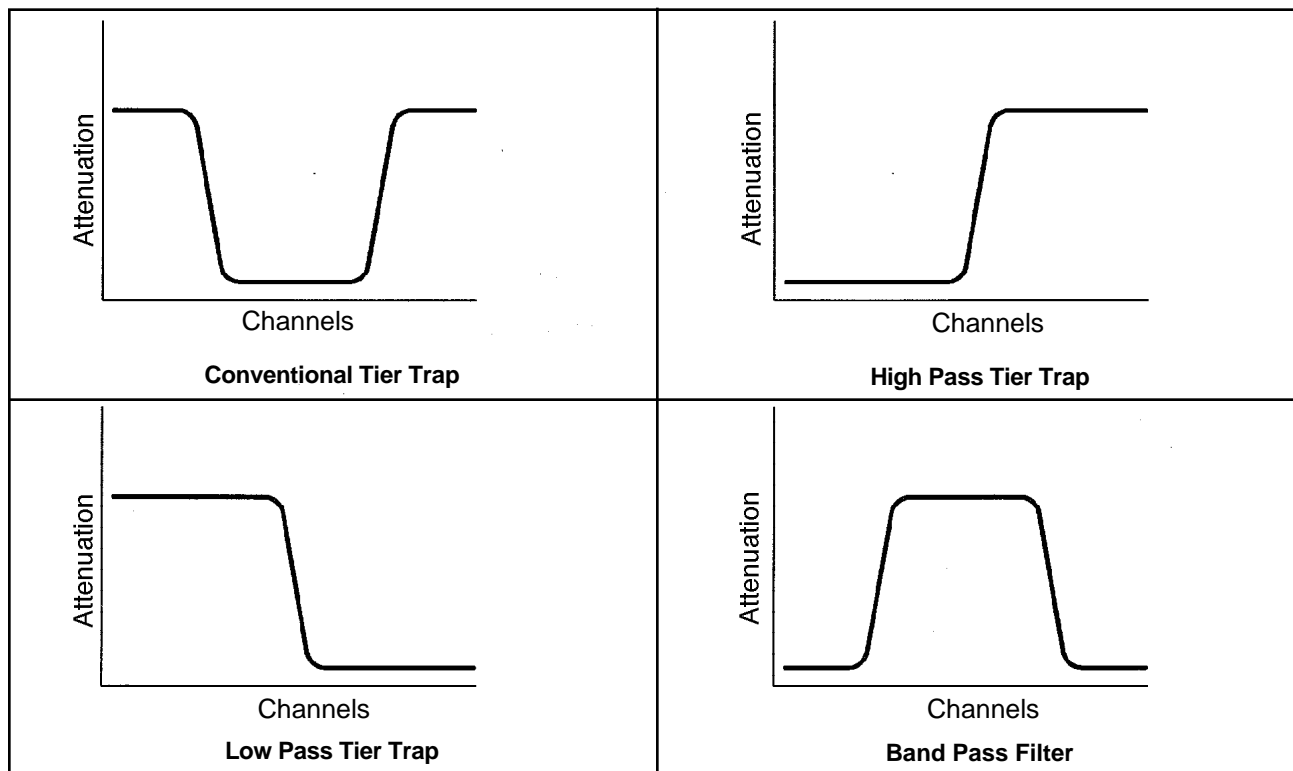

Figure 3
Should it become necessary to trap more than one channel, one would progress to a multi-pole or Tier Trap. An effective tier trap will have from four (4) to sixteen (16) poles. Premium channels can be consecutively grouped and offered at attractive prices. Figure 3 (below) illustrates the tier trap configurations that are available.